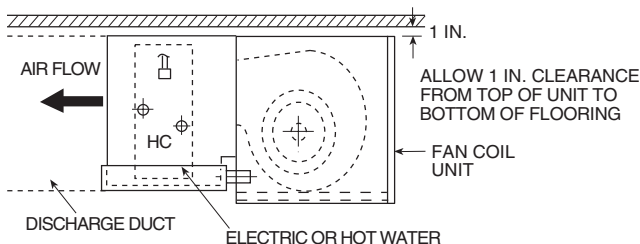

Fig. 43 — Service Clearance for Fan Coil Unit Installation
2. Fan-powered terminals require sufficient clearance for servicing the blower/motor assembly, low voltage controls from the side and line voltage motor controls or electric heat, if equipped, from the rear (discharge end) of the unit. See Fig. 43.